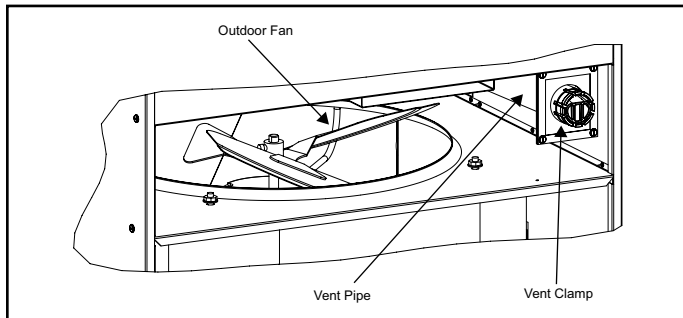

Figure 5. Locating Vent Pipe and Extension
2. The vent pipe and vent pipe extension is located to the right of the outdoor fan (see Figure 5).
- The inner vent pipe slides inside the outer vent pipe for adjusting vent length based on varying wall thickness. This feature allows the vent to be extended the necessary length required for the installation. The inner vent pipe has markings to indicate vent length of inner pipe extension (see Figure 5 and 6). This vent can be adjusted for a maximum of 18 inches.